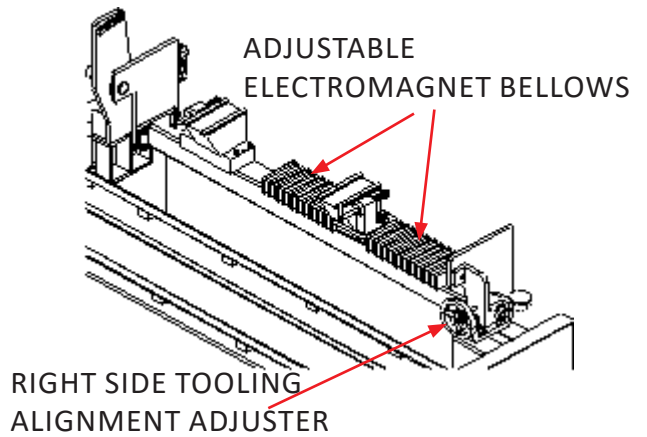

FIG. 1
1. Clean the right side adjustable electromagnet bearing rail weekly. Lift the bellows located on the adjustable electromagnet (see FIG. 1) and wipe off the bearing rail. Every month thoroughly clean the rail and flood spray with CRC 3-36 or an equivalent lubricant. Move the adjustable electromagnet back and forth through its full range of travel. With a clean rag, wipe off the excess lubricant. Move the carriage back and forth and wipe the rail after each pass. Repeat until the rail feels dry.